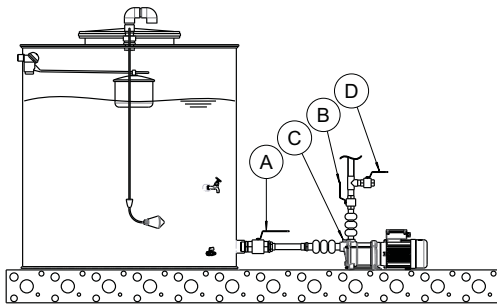
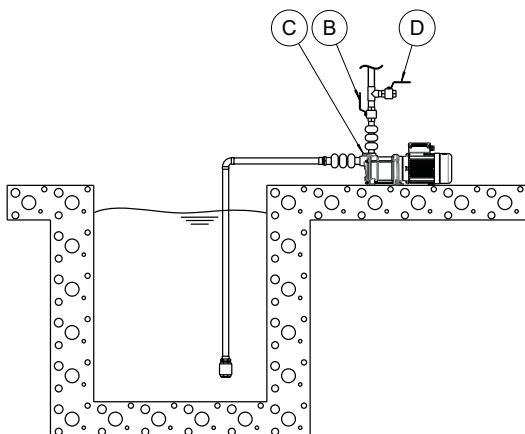

Figure 8: Example: installation of a pump under pressure operation
Figure 9: Example: installation of a pump in suction-operation
- Close the discharge shut-off valve (B);
- Close the suction shut-off valve (A);
- Unscrew the fill plug (C);
- Gradually open the suction shut-off valve (A) until the liquid flows from the fill plug (C);
- Close the fill plug (C);
- Open shut-off valve (B);
- Vent the pump on discharge side for example via a venting valve (D) on discharge side (see Figure 8 Example: installation of a pump under pressure operation);
- Open the discharge shut-off valve (B);
- Remove the fill plug (C);
- Put a funnel into the port (C) and completely fill the pump with the liquid to be pumped;
- Vent the pump on discharge side for example via a venting valve (D) on discharge side (see Figure 9 Example: installation of a pump in suction-operation);
- Close the fill plug (C).
- Gradually open the discharge shut-off valve (B);